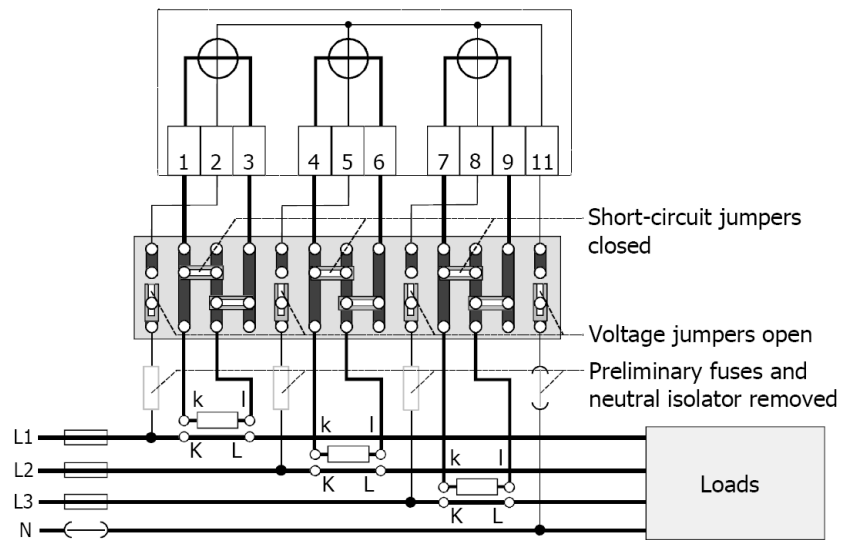

Figure 61. Condition of test terminal block before removing meter (terminal layout according to DIN)
4. Check that the connecting wires are not live using a phase tester or universal measuring instrument. If not, check the condition of the test terminals again according to figure 61. Remove the relevant supply fuses, if necessary, and ensure that they cannot be re-inserted by anyone unnoticed before completing the installation.